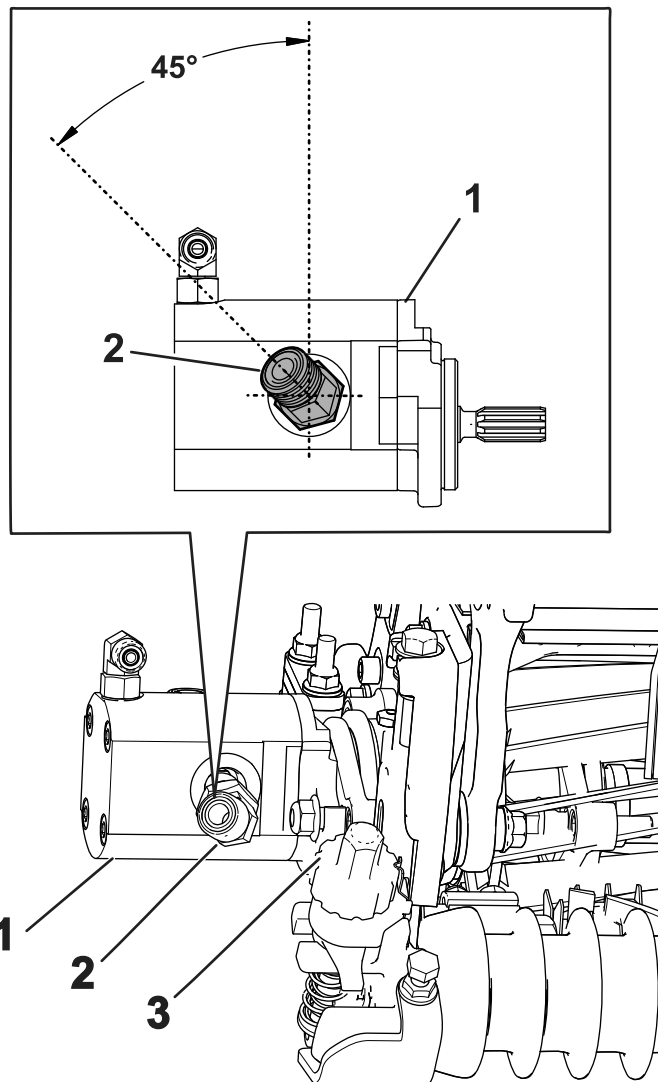

Figure 21
- Install the new 45° fitting, positioning the fitting with the angle of the fitting as shown in Figure 21. Torque the fitting to 47 to 58 N·m (35 to 43 ft-lb).